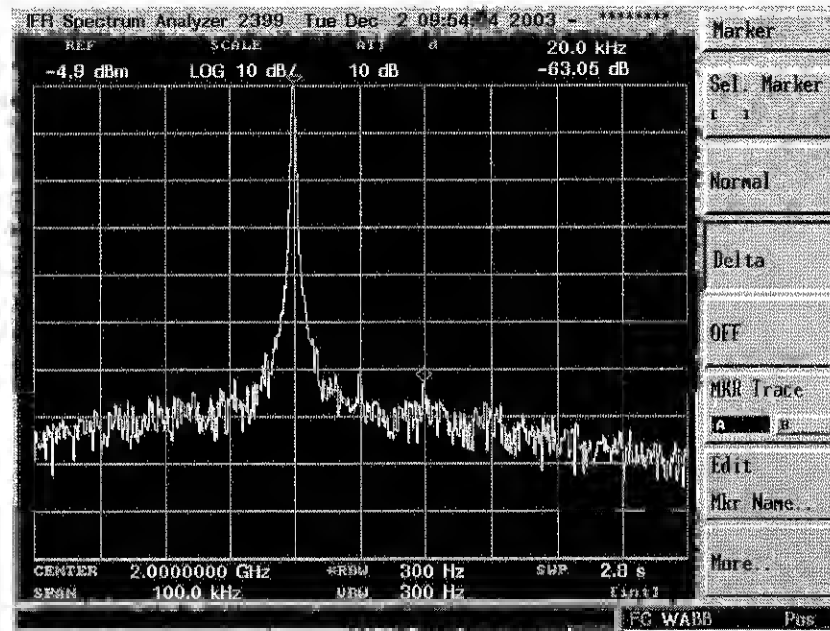

Fig. 6-9 Spectrum analyzer display showing suppressed USB image measurement
- 12 Using the spectrum analyzer's Marker Delta facility, measure the level of the suppressed USB relative to the LSB as shown in Fig. 6-9.